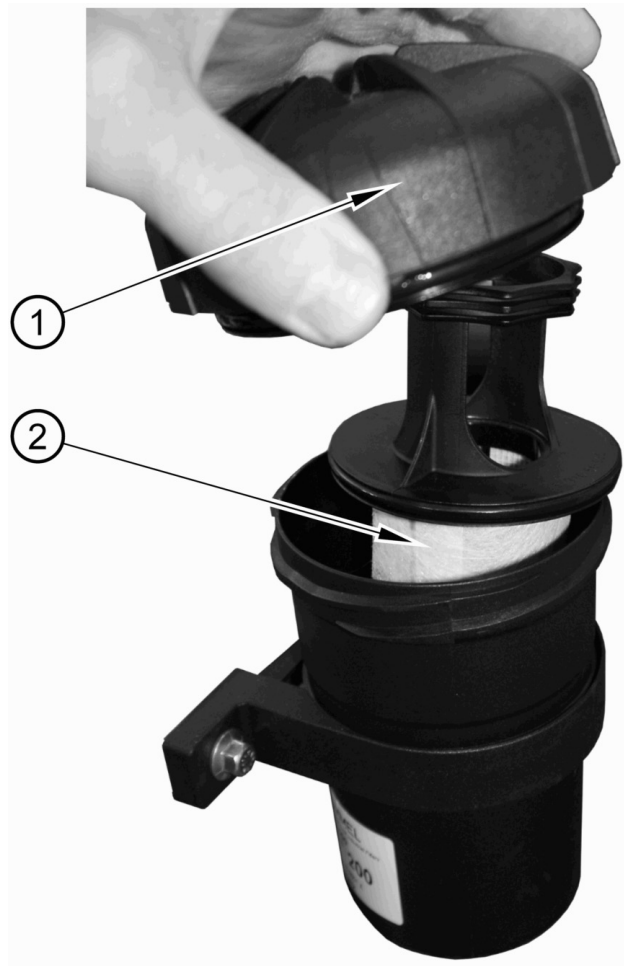

Figure 24
2. Unscrew the breather cap (figure 24 item 1) and pull away from the main body
3. Remove the filter canister (figure 24 item 2) and discard.